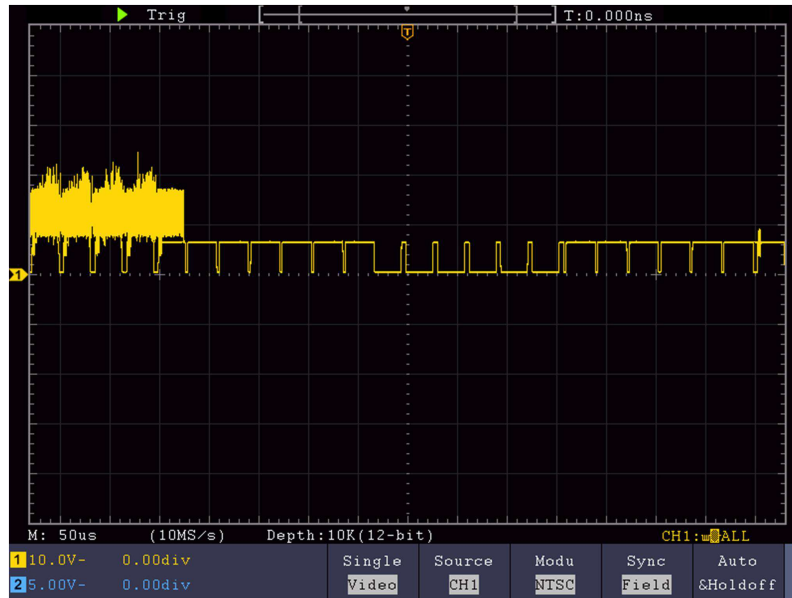

Figure 6- 7 Waveform Captured from Video Field Trigger
- (5) Select **Modu** in the bottom menu. Select **NTSC** in the right menu.
- (6) Select **Sync** in the bottom menu. Select **Field** in the right menu.
- (7) Turn the **Vertical Scale**, **Vertical Position** and **Horizontal Scale** knobs to obtain a proper waveform display (see *Figure 6- 7*).